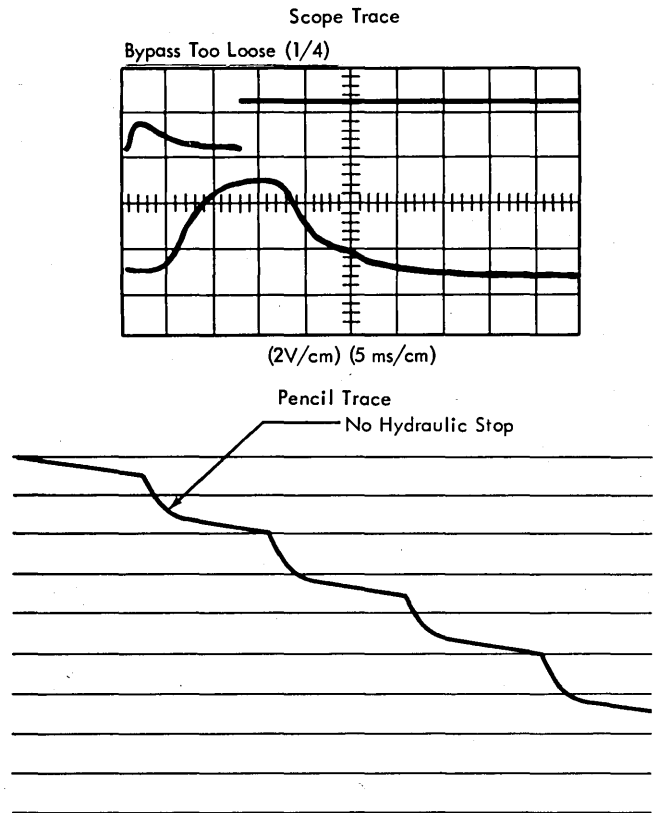

Figure 4-71. Bypass Too Loose
9. Tighten the lockscrew (right rear) and recheck the adjustment by making new line graphs or scope traces. A line graph having relatively square corners followed by carriage drift, or a scope trace indicating light hydraulic bounce verifies that the bypass needle valve is in correct adjustment. Notice that incorrect adjustment indications result from as little as one quarter turn of the bypass needle valve from its correctly adjusted position. Figure 4-71 shows the results produced if the bypass is adjusted too loosely.